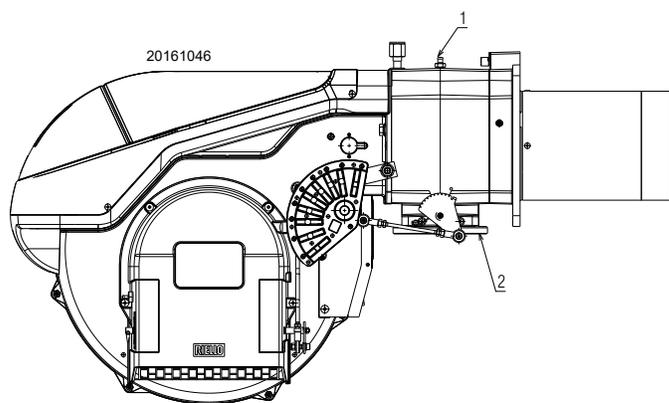

Fig. 19
Gas manifold pressure measured at test point 1)(Fig. 19), with:
- subtract the combustion chamber pressure from the gas pressure measured at test point 1)(Fig. 19).
- Gas pressure at test point 1)(Fig. 19) = 3.15 “WC